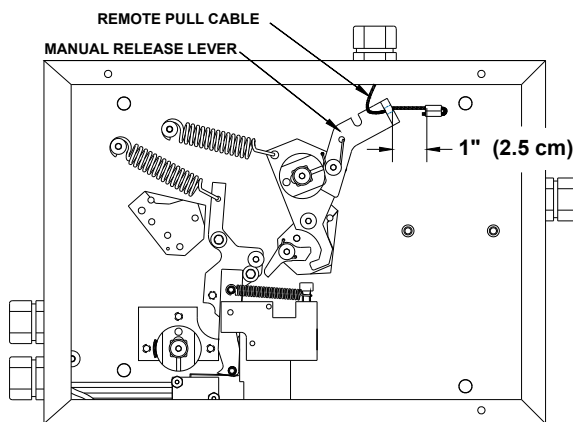

Figure 4-40.
3. Install a cable crimp and loop the cable back through the crimp so that **NO** loop is exposed. There should be approximately 1" (2.5 cm) of cable left between the crimp and the Manual Release Lever. See **Figure 4-40**.
4. Make sure that the crimp on the end of the Remote Pull Station line is about 1" below the Manual Release Lever. Refer to **Figure 4-40**.